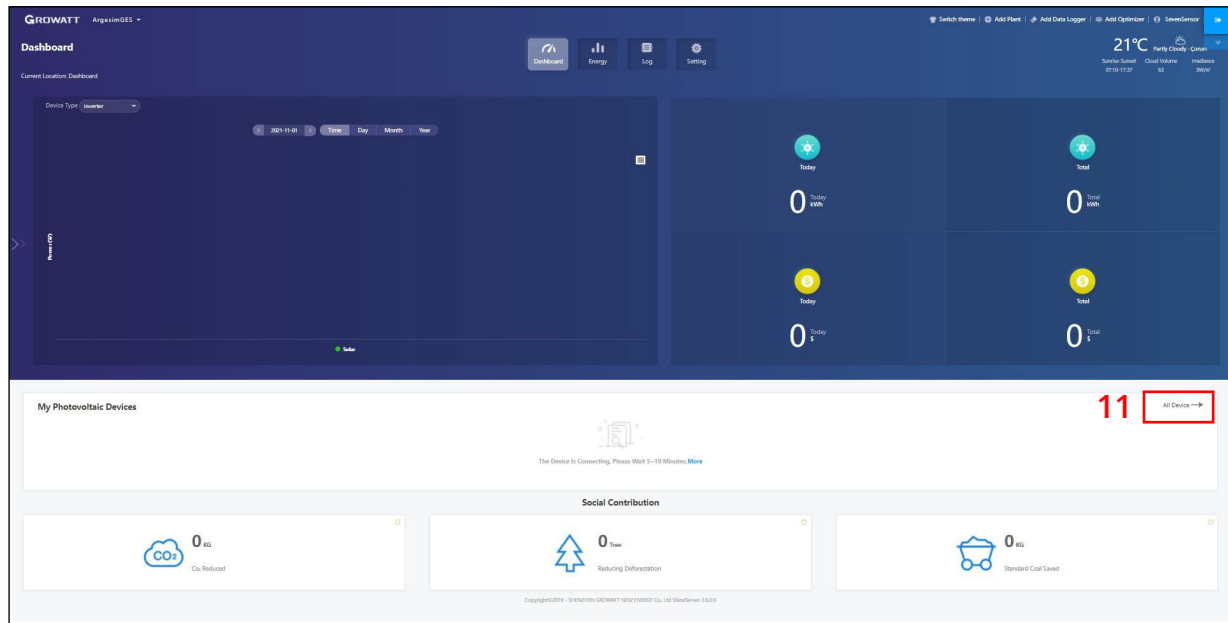

Figure 7: ShineServer Dashboard
Step 11 : In the "Dashboard" screen, choose your PV plant then go to "All Devices" in "My Photovoltaic Devices" section as shown in Figure 7.